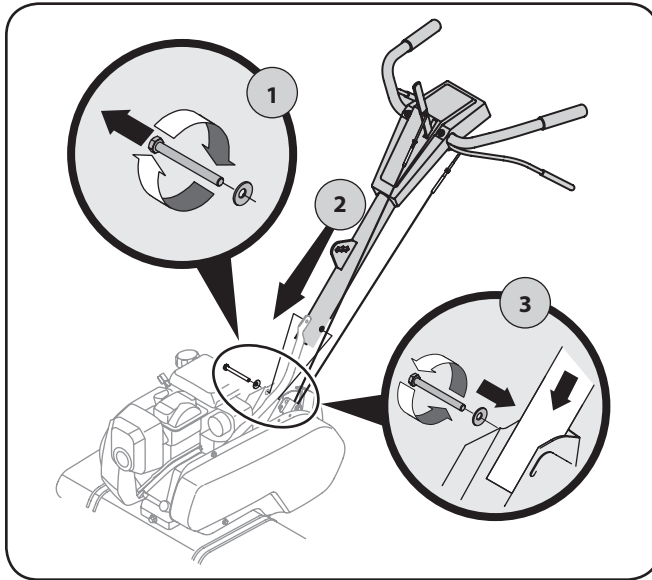

Figure 3-3
4. Remove the hex bolt and cupped washer from the right side of the frame. Hold the cable guide bracket on the left side of frame as it will fall when the bolt is removed. Step 1 in Fig. 3-3.
5. Insert the handle into tiller frame as shown. Step 2 in Fig. 3-3.
6. Insert the bolt through the cupped washer, frame, handle and into the cable guide bracket (note the notch in the cable guide bracket goes over the flange on the frame.) Step 3 in Fig. 3-3.